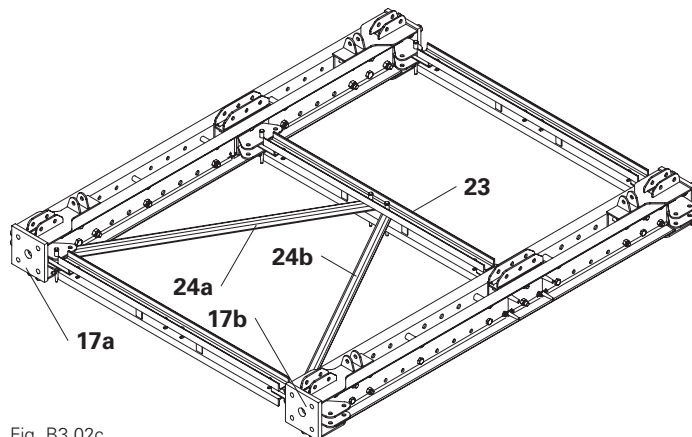

Fig. B3.02c
5. Secure both diagonal struts VST 200/150 (**24**)\* to the horizontal ledgers VST 200 (**23**) using 1x fitting pin  $\varnothing$  21 mm (**9**) respectively. (Fig. B3.02c)